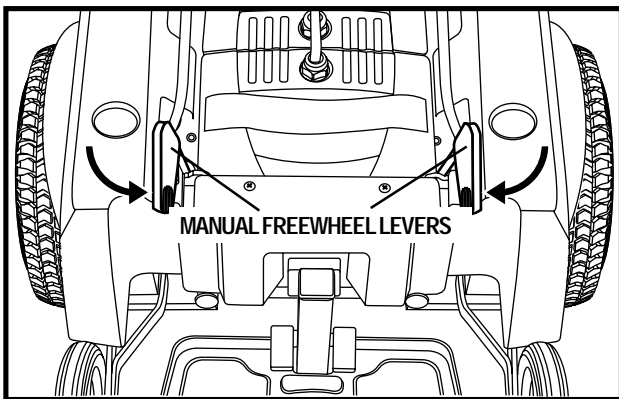

Figure 8. Drive Mode
For your convenience, your power chair is equipped with two manual freewheel levers. The levers are located on each motor. See figures 8 and 9. These levers allow you to disengage the drive motors from the gearboxes and maneuver the chair manually. This is called freewheel mode.
1. Rotate the manual freewheel levers inward to engage the drive motors and place your power chair in drive mode. See figure 8.